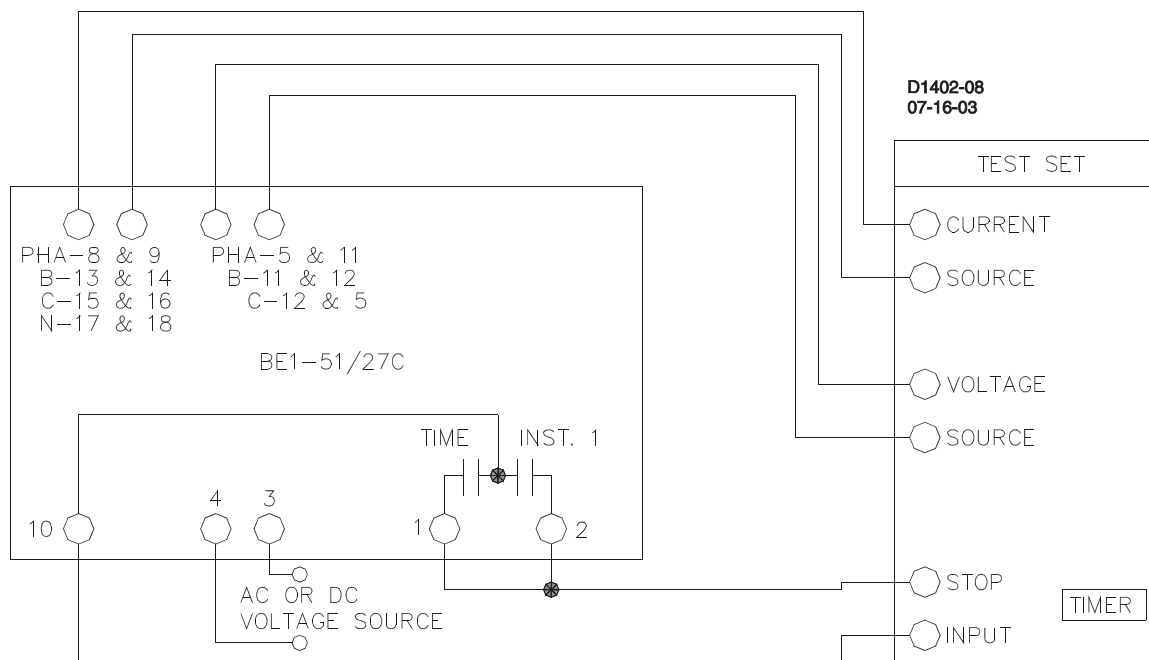

Figure 5-5. Setup for Sensing Input Type D (Three-Phase with Neutral Sensing)
- (e) Sensing Input Type D (Three-Phase with Neutral Sensing). Refer to Figure 5-5. Ensure that the timed Output Terminals 1 and 10 are connected. Also, verify that either A, B or current sense terminals are connected initially (N terminals will be connected later in the test).